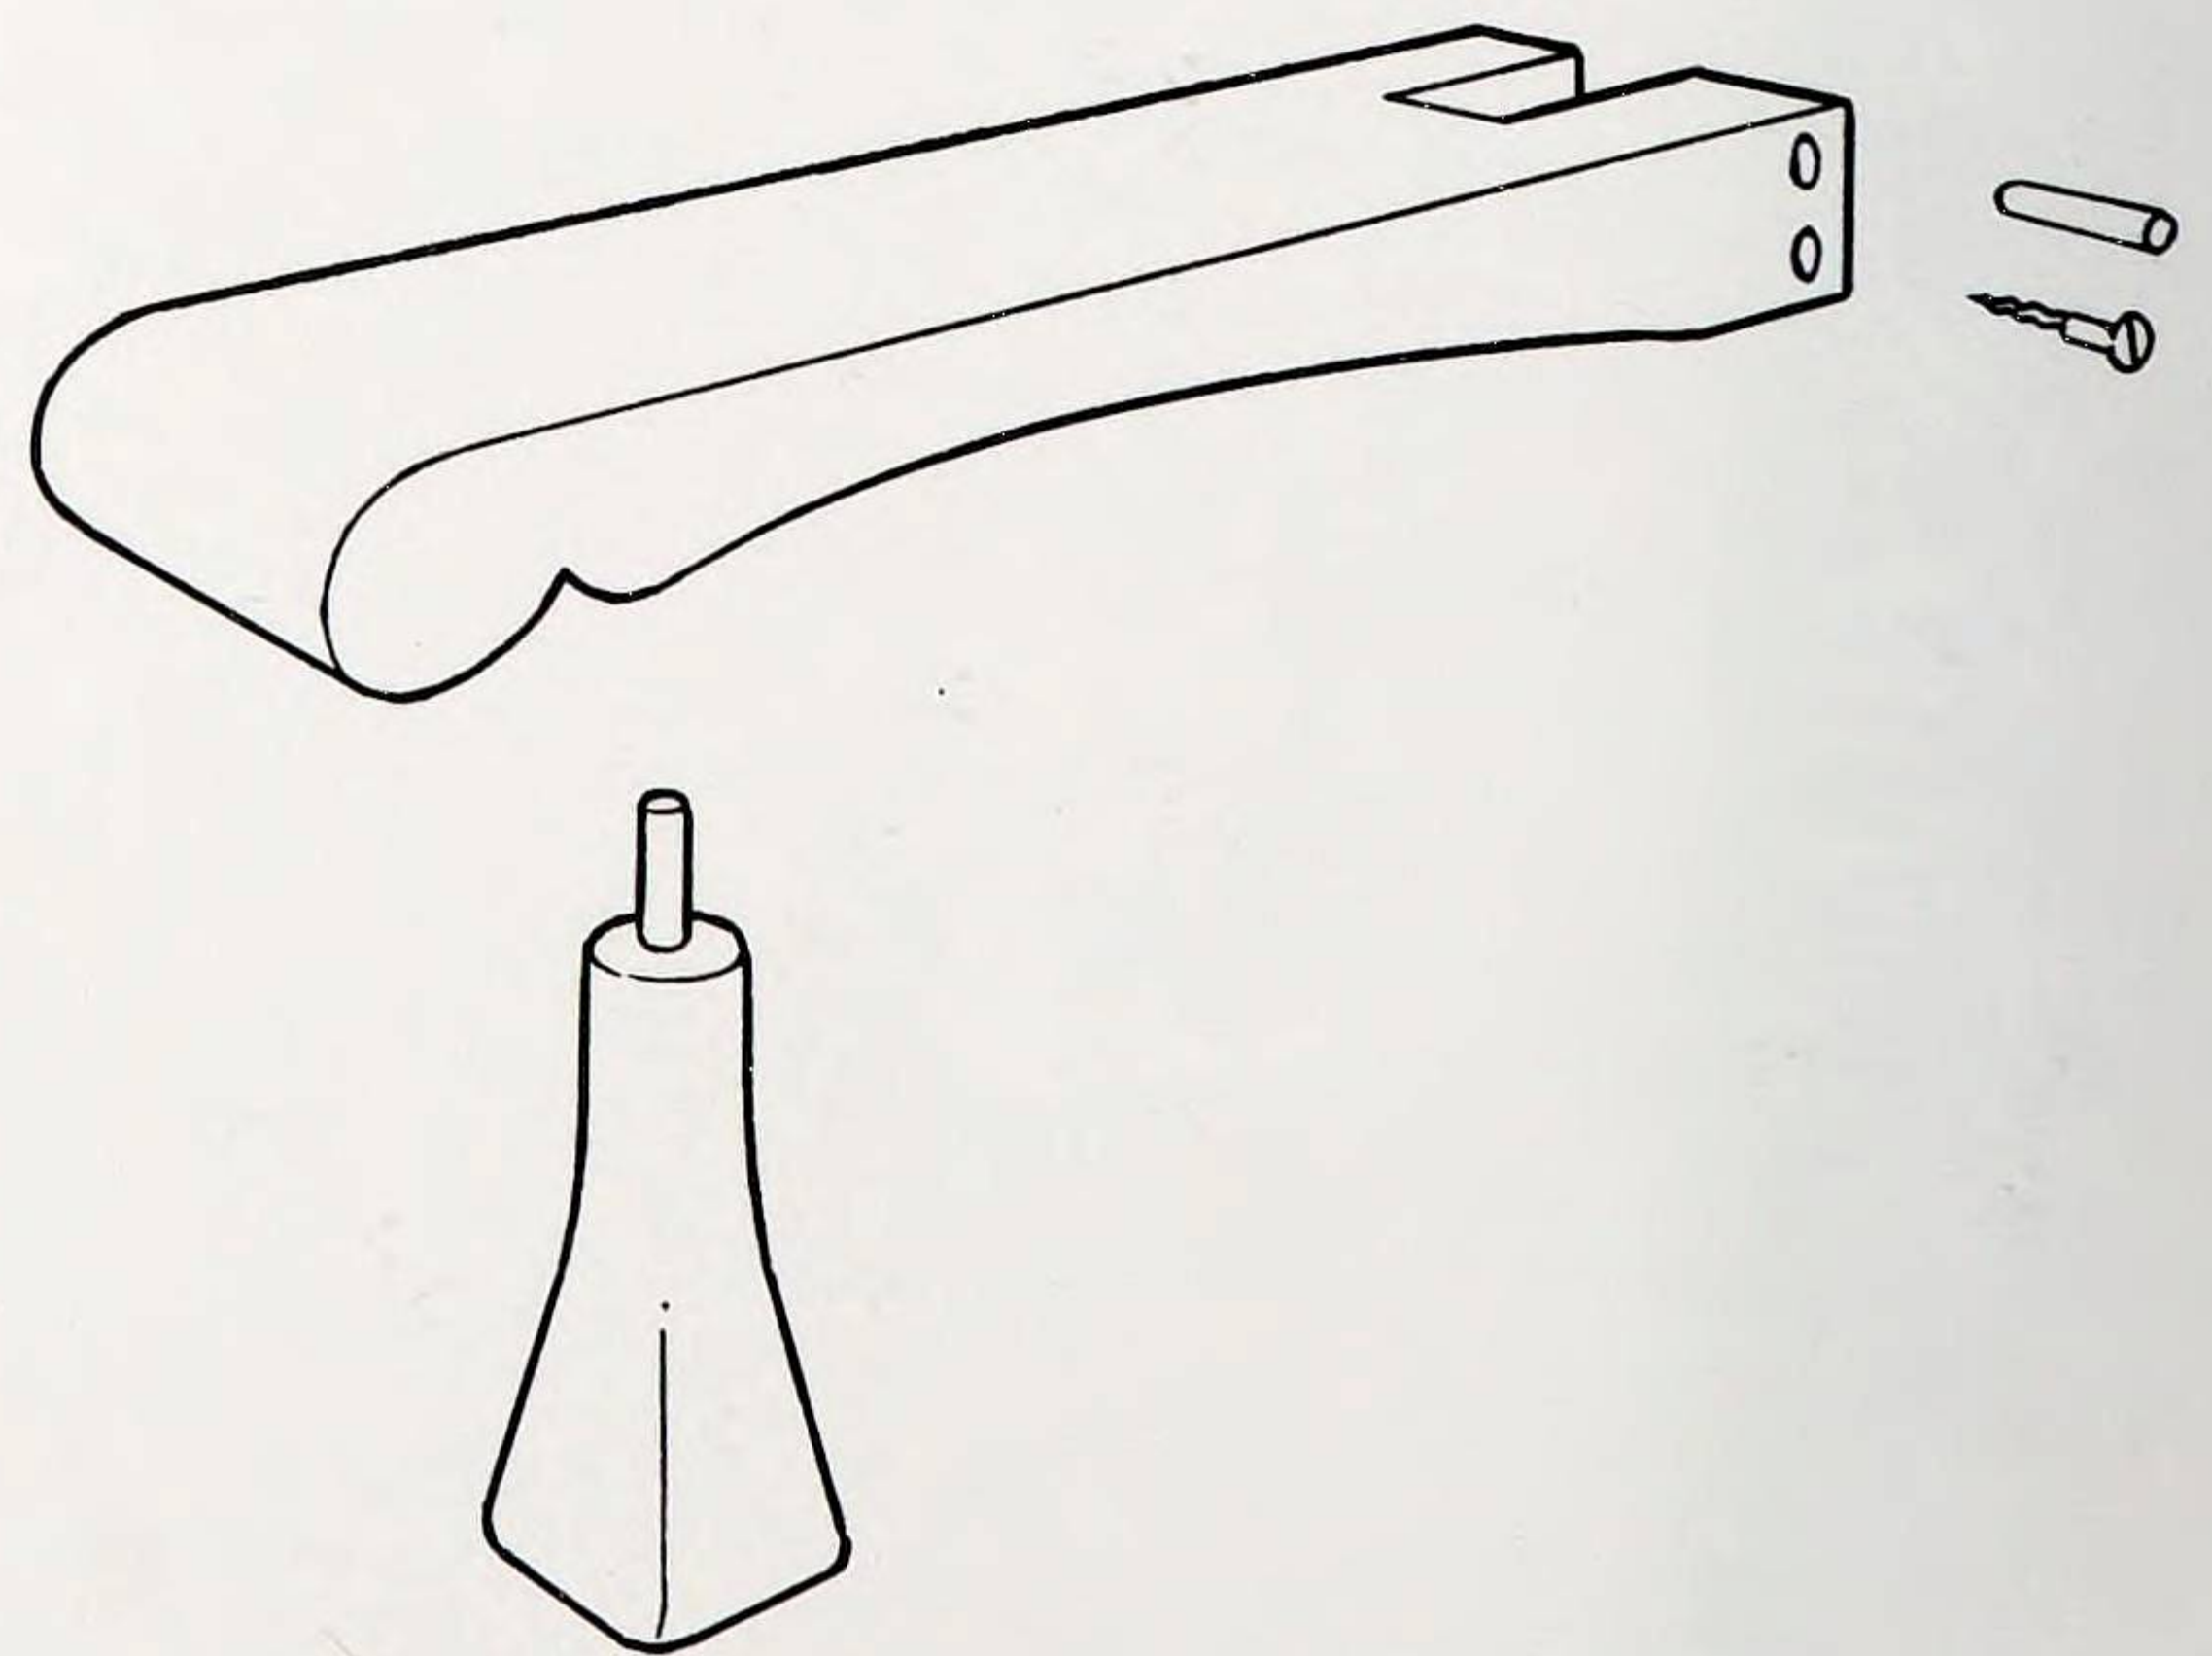

Fig. 4 The settle arms are cut and shaped
8. Make the arms (Fig. 4). The shape of both each arm rest and support is optional, although a simple design with a scroll shape works well. Cut the arms out and shape them roughly, then smooth them and fix in position. The support can be tenoned into the side frame and dowelled under the arm as shown. Fix the arm at the rear with a small halving joint and with dowels or screws.